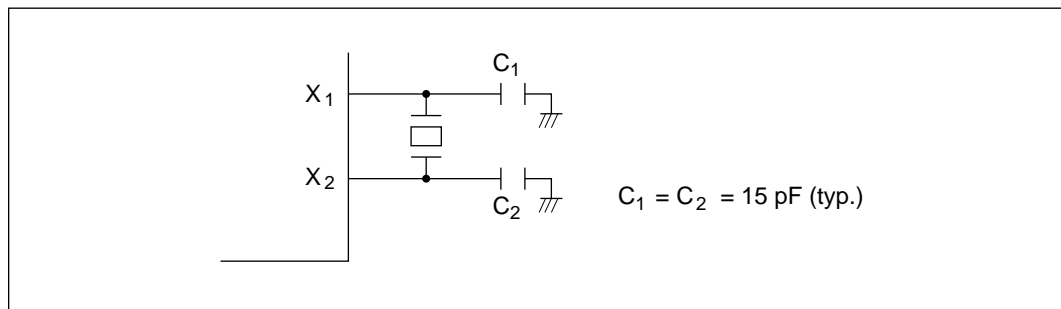

Figure 4-7 Typical Connection to 32.768-kHz Crystal Oscillator (Subclock)
Clock pulses can be supplied to the subclock divider by connecting a 32.768-kHz crystal oscillator, as shown in figure 4-7. Follow the same precautions as noted under 4.2 (3) for the system clock.